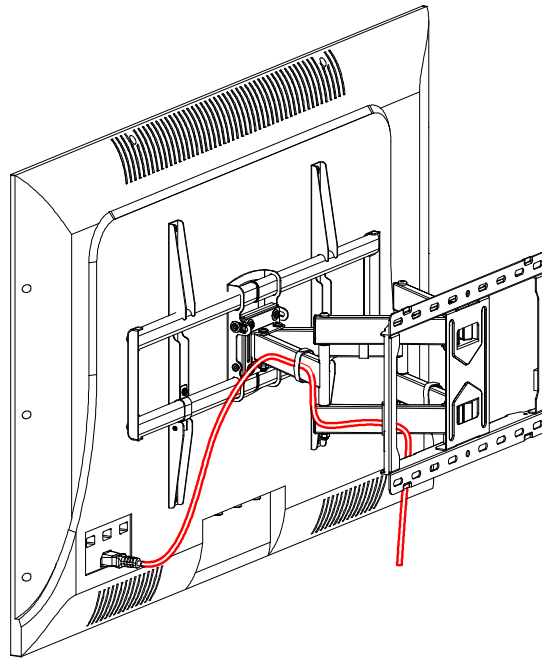

Figure 9
Step 8: Manage TV cables orderly and guide them through the velcros. (Figure 9)